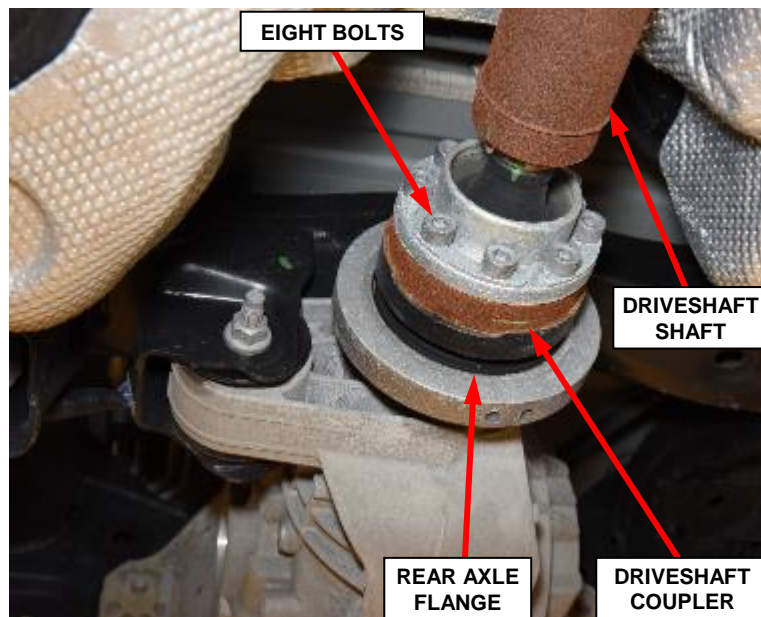

Figure 10 – Driveshaft to Rear Axle Flange
15. Remove the bolts securing the driveshaft coupler to rear axle flange (Figure 10).